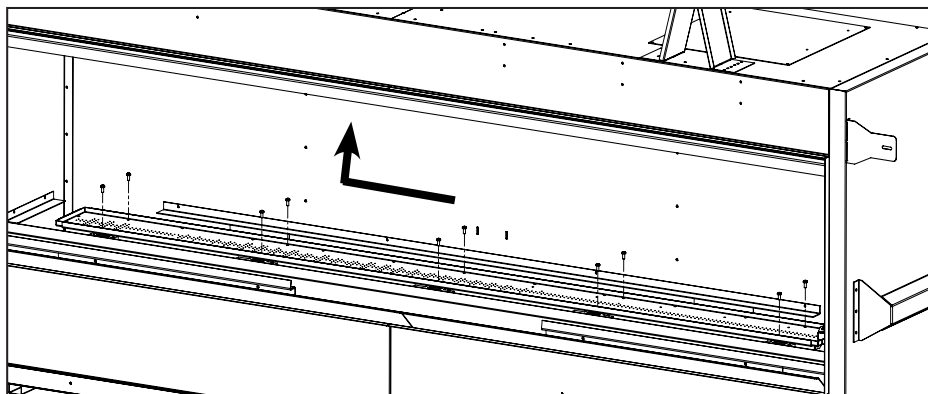

Figure 19: Removing Burner
6. Remove the ten T-20 screws securing the burner pan as shown in Figure 19; do NOT remove the other T-20 screws. Once the specified screws are removed slide burner to the left and lift out to remove.